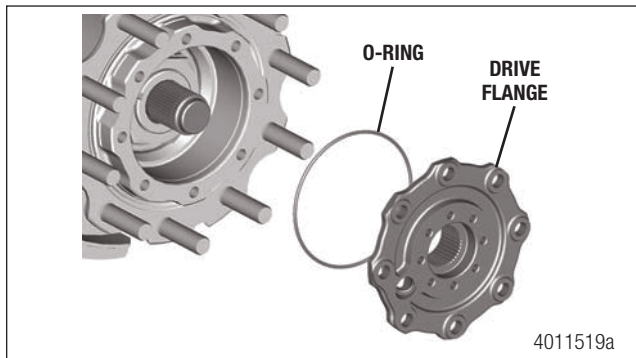
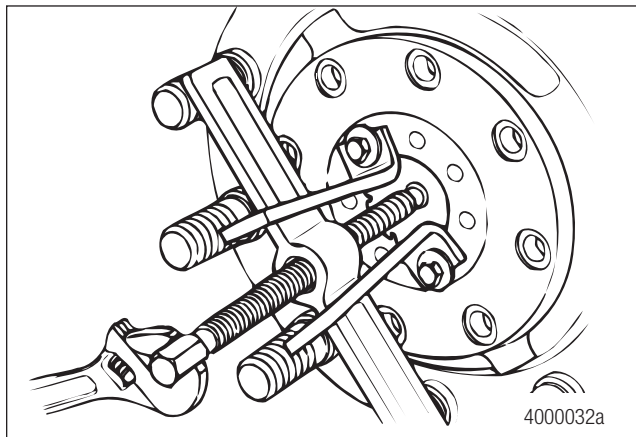

Figure 5.8
Figure 5.9
6. Remove the drive flange from the hub. If necessary, use a puller to remove the drive flange. Figure 5.8 and Figure 5.9.